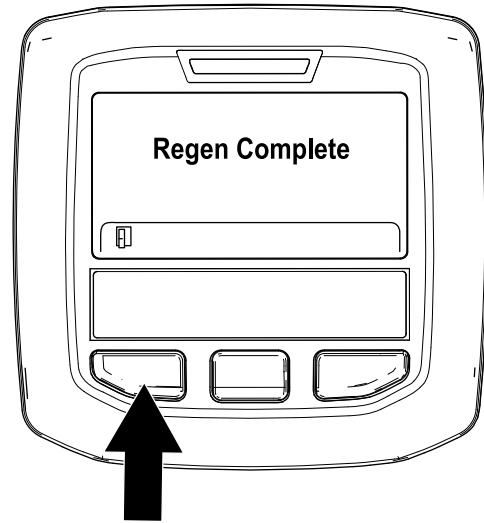

Figure 58
9. The parked regeneration is complete when the “Regen Complete” message displays in the InfoCenter. Press the left button to exit to the home screen (Figure 58).